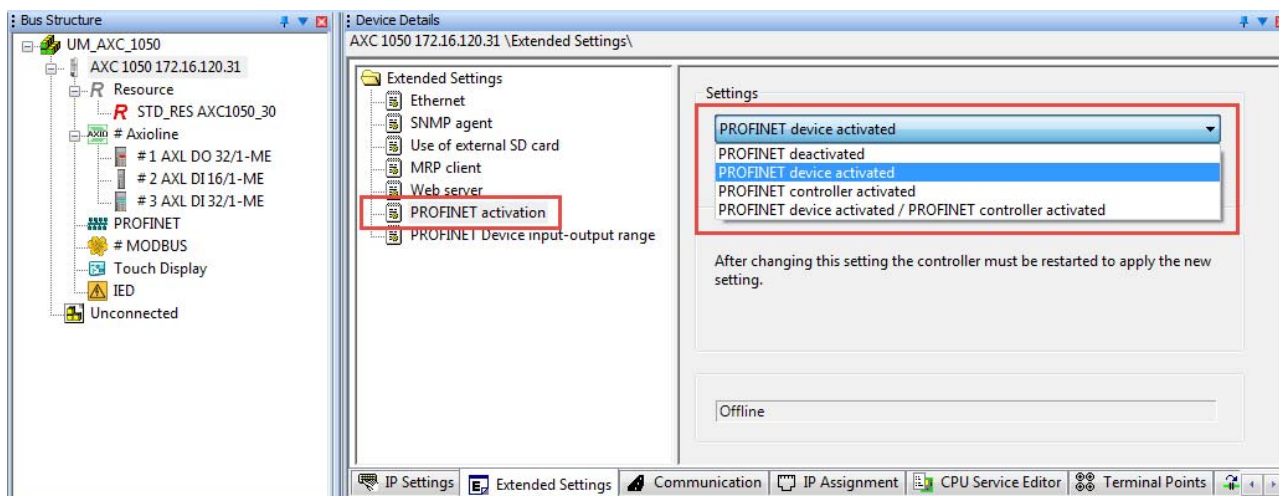

Figure 6-21 "Extended Settings, PROFINET activation: PROFINET device activated"
- In the "Settings" drop-down list, select one of the following entries: "PROFINET device activated" (in the example in Figure 6-21), "PROFINET controller activated" or "PROFINET device activated / PROFINET controller activated".